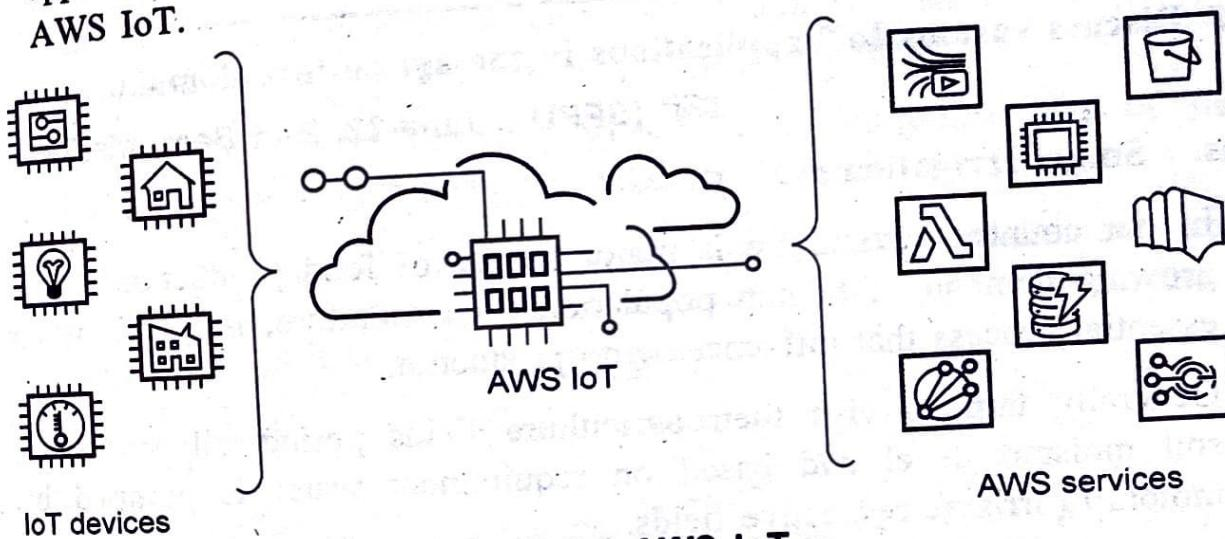

Fig. Q.8.1 AWS IoT
- AWS IoT will integrate with Lambda, Amazon Kinesis, Amazon S3, Amazon Machine Learning and Amazon DynamoDB to build IoT applications, manage infrastructure and analyze data. Fig. Q.8.1 shows AWS IoT.